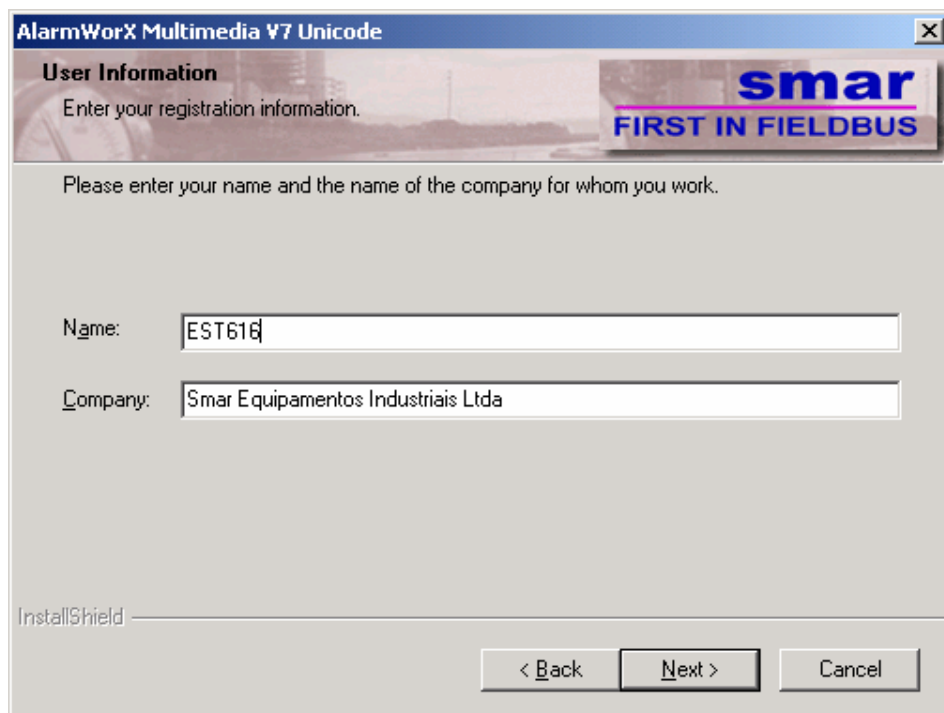

Figure 1.4. User Information Dialog Box
7. The **User Information** dialog box appears, as shown in **Figure 1.4**. Type your (the user's) name in the **Name** field; your company's name in the **Company** field; and your product serial number in the **Serial** field. Click the **Next** button to continue.